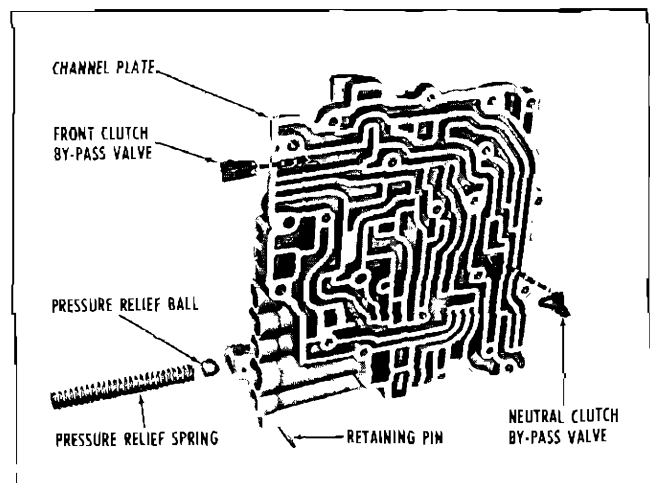

Fig. 103 Channel Plate—Exploded
2. Remove neutral clutch by-pass valve from cored side of channel plate (Fig. 103).
4. If necessary to remove pressure relief ball and spring: (Fig. 103)